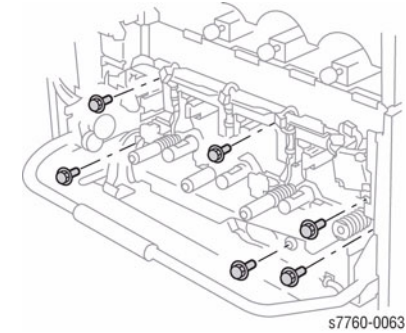

Figure 3 Removing Plate Assembly
13. Removing the Plate Assembly (Figure 3).